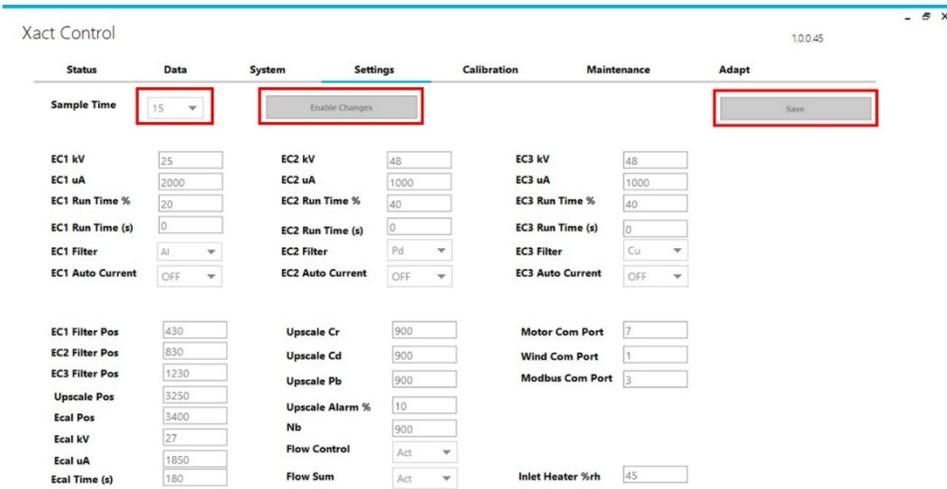

Figure 7.1 Setting Xact 625i Sample Time.
- 7.8 To set the Sampling Time for Xact 625i, navigate to Setting page (Xact Control>> Settings) and follow the instructions as highlighted in **Figure 7.1**: